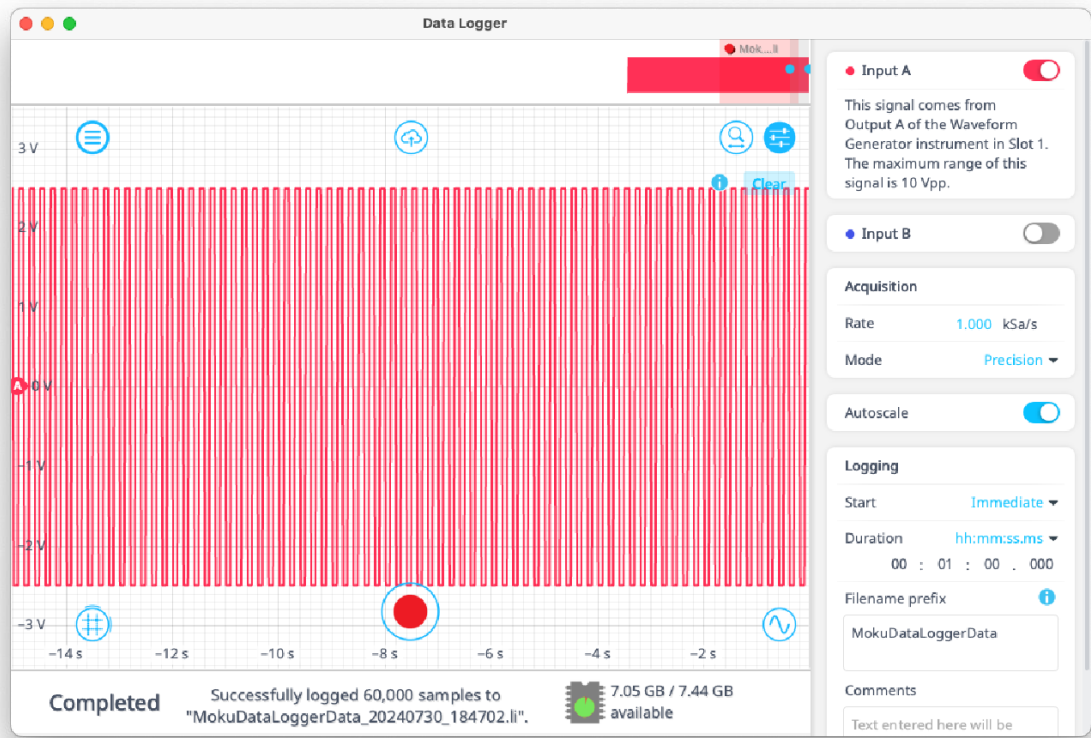

Figure 35. Successfully completed log in the Data Logger.
- Ensure the inputs and events to "Include in logging" are toggled ON in the Data Logger and Time & Frequency Analyzer respectively, so that it will be captured when logging. Figure 35 shows a completed log.